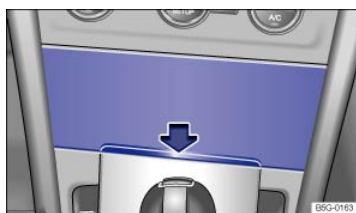

Fig. 134 In the front center console: Storage compartment.
- *To open:* Briefly press the lower edge of the cover in the direction of the arrow ⇒ Fig. 134. The cover opens automatically.